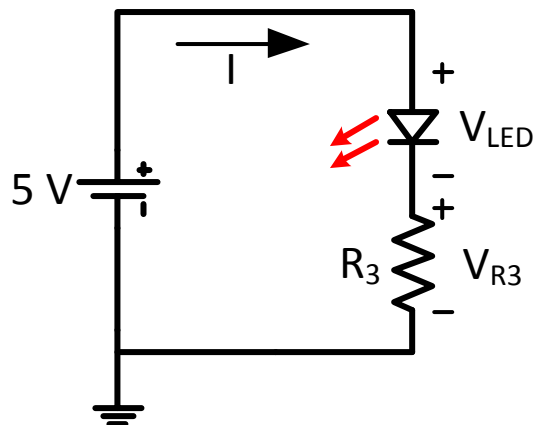

Figure 6: Current limiting circuit for an LED.
- a) First we'll design the resistor that limits current through the LED. Figure 6 shows the circuit we will use. Use Ohm's Law and Kirchoff's Voltage Law to determine what value of R_3 will produce a current of 10 mA if the voltage drop across the LED is 1.8 Volts.